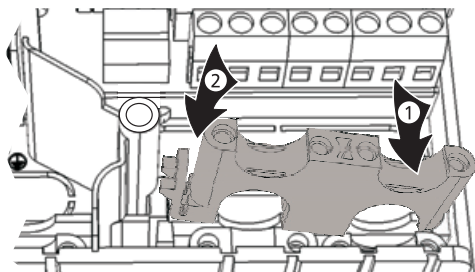

Fig. 4: Inserting the right plastic link
1. Insert the right plastic strip with the latching protrusion first ① (Fig. 4).
2. Press the other side of the plastic strip down ②, until the spring clamp latches into place.